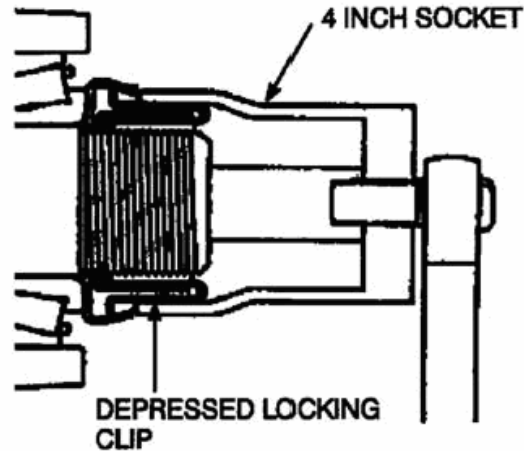

FIG 17
1. Place the 4 inch socket over the hex portion of the nut to depress the locking clips (Figure 17).
2. Turn nut counterclockwise to remove. When removing the Axilok, it is required to manually keep the retaining washer moving toward the end of the spindle with nut as nut is removed (Figure 17).